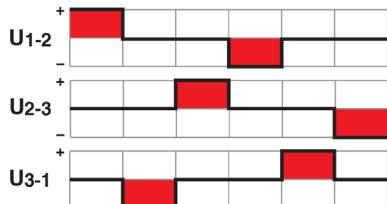

Figure 6-44 Block commutation of EC (BLDC) motors – Definition of phases
- either ensure that the alignment follows the specified pattern (→Figure 6-44)